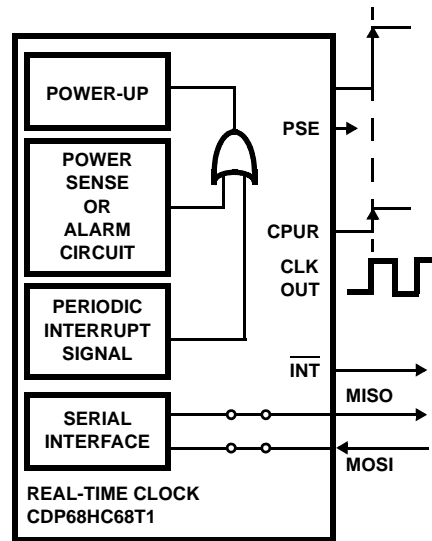

FIGURE 5. POWER-UP FUNCTIONAL DIAGRAM (INITIATED BY INTERRUPT SIGNAL)
**Power-Up (See Figures 5 and 6)**
1. The first condition (see Figure 5) requires an interrupt. The interrupt can be generated by the alarm circuit, the programmable periodic interrupt signal, or the power sense circuit.